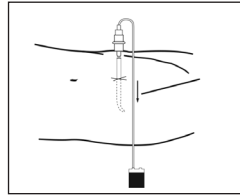

Figure 6
*Note: If no fluid return occurs, reinsert guidewire and again check for fluid return after wire guide removal. If fluid return still does not occur, flush catheter with saline solution. If fluid return still does not occur, exchange old catheter with new utilizing wire guide (refer to Figure 6).*